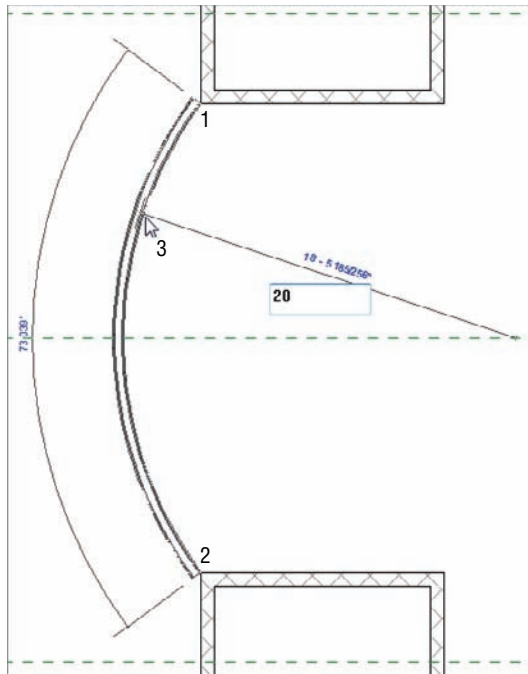

FIGURE 2.33 Drawing arched radial wall requires a three-point method. It's similar to the Start-End-Direction command in AutoCAD.
10. Move your cursor to the left, and specify a radius of 20'-0" (6000mm), as shown in Figure 2.33.